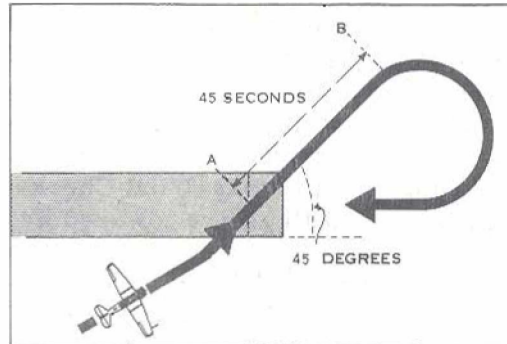

Figure 9: The Third Method
(5) **THIRD PROCEDURE** - Figure 9 illustrates the action to be taken when you approach the runway at an angle. You should fly towards the button and once there: